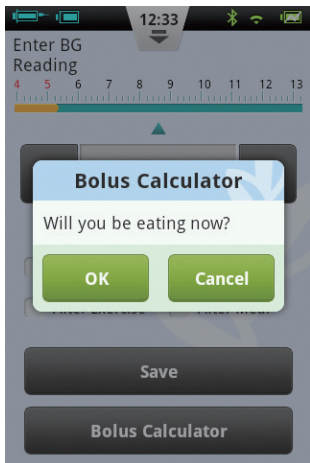

Figure 105
**1** The Bolus Calculator function will be enabled after you use the internal blood glucose meter or you enter your BG level manually and save. Press the Bolus Calculator button and the calculator will ask if you will be eating now (Figure 105).